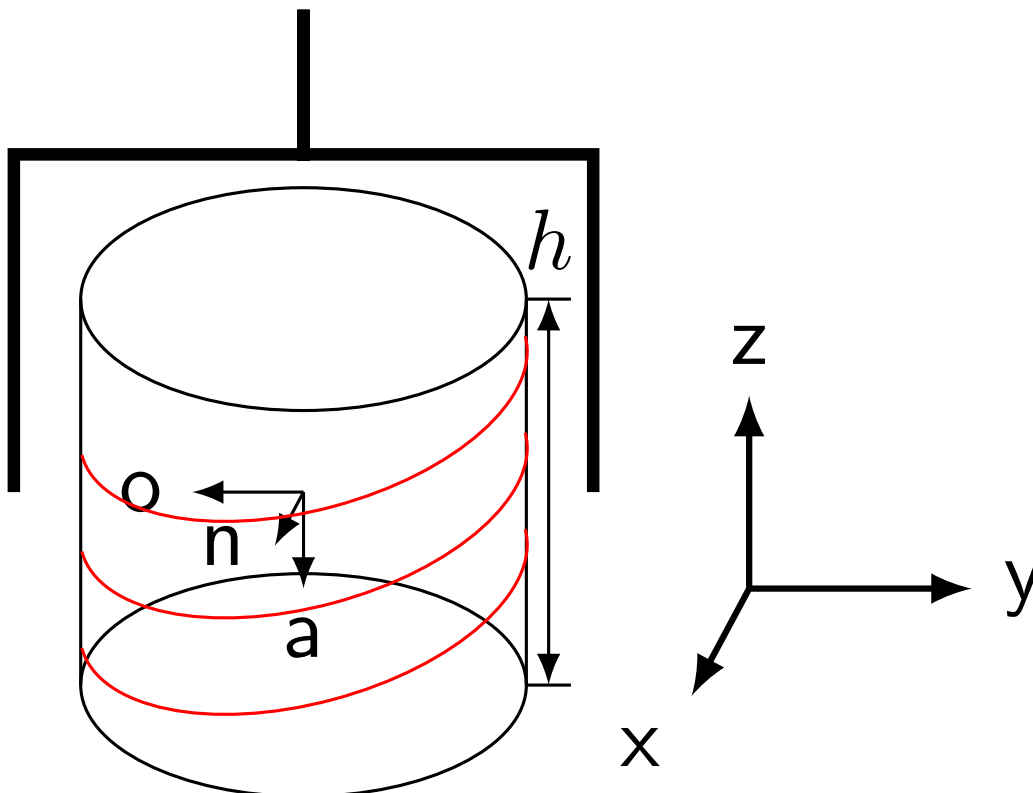

Figure 1: Loosening of a screw cap.
**Task 3.1 (4 points) Screw Cap:** Consider a simple gripper that is being used to loosen/open a screw cap (illustrated in figure 1). The thread height of the screw cap is given as  $\frac{h}{\#rotations}$ .